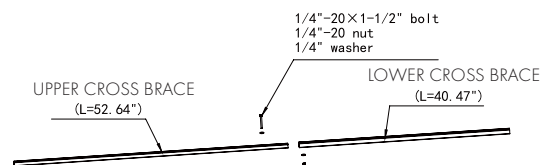

FIGURE 5
Assemble the one **UPPER CROSS BRACE (#9)** to the one **LOWER CROSS BRACE (#8)** by using (1) 1/4"-20 x 1-1/2" bolt, (1) 1/4" lock nut and (2) 1/4" flat washers. Repeat this step to assemble the other seven cross brace (Figure 5). **Be sure to not over tighten.**